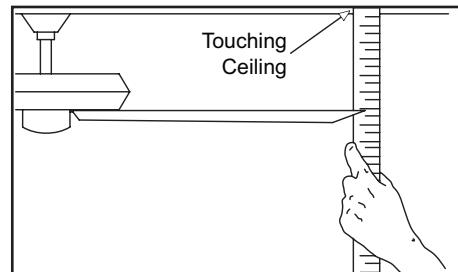

Figure 13
2. Most fan wobble problems are caused when blade levels are unequal. Check this level by selecting a point on the ceiling above the tip of one of the blades. Measure from a point on the center of each blade to the point on the ceiling. Measure this distance as shown in Figure 13. Rotate the fan until the next blade is positioned for measurement. Repeat for each blade. Measurements deviation should be within $1/8"$. Run the fan for 10 minutes.